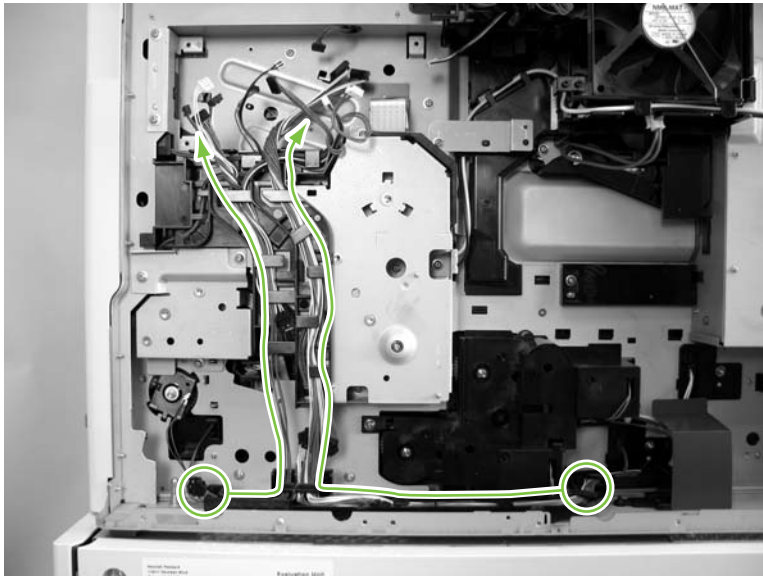

Figure 5-282 Remove the main motor (1 of 7)
2. Before you begin this procedure, note the routing of the wire harness as shown in Figure 5-282 Remove the main motor \(1 of 7\) on page 363.